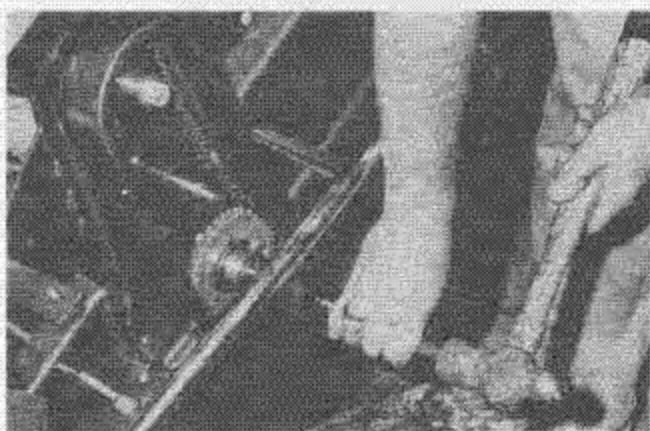

Fig. 44 — Driving Shaft from Sprocket
7. Loosen setscrews in drive chain sprocket and drive shaft toward right-hand side of machine, Fig. 44.